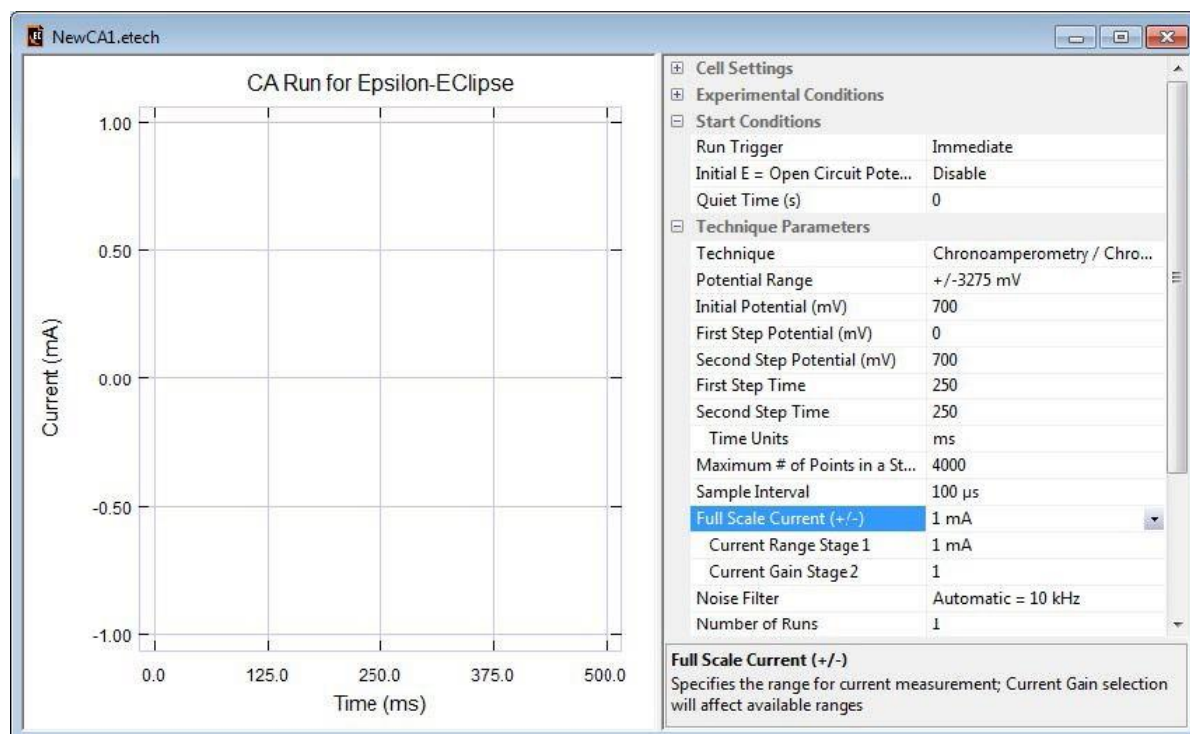
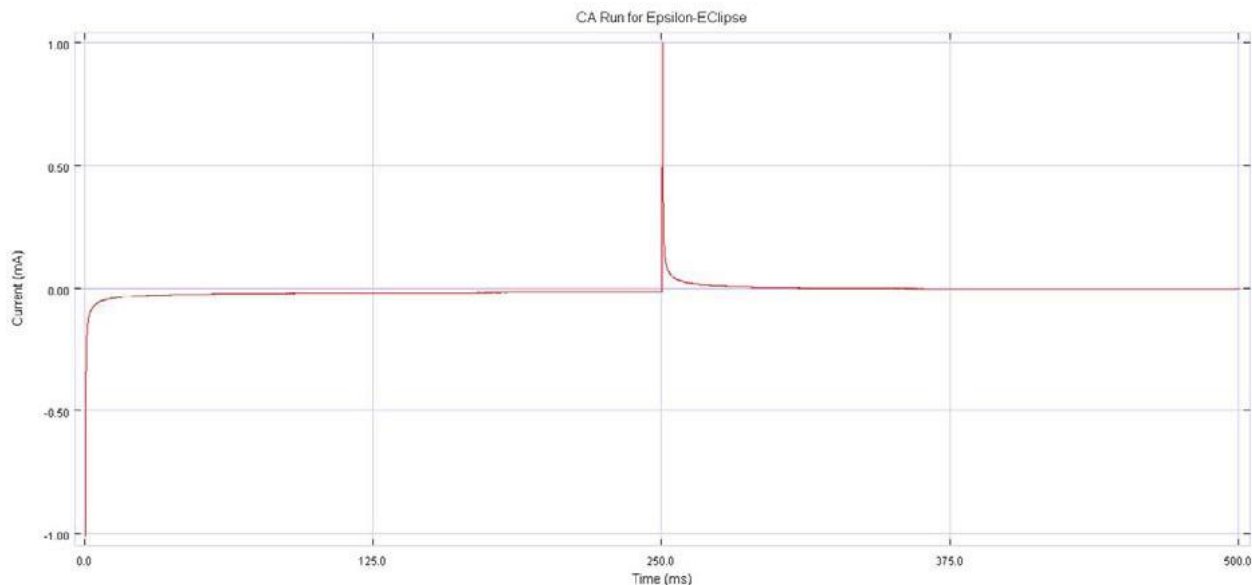

Figure 9 - Parameters for Chronoamperometry/Chronocoulometry
Figure 10 - Chronoamperometry/Chronocoulometry graph
11. Click **New**, and select **Chronoamperometry/Chronocoulometry** from the list of techniques. A third window will appear. Enter the parameters shown in **Figure 9**. Running the experiment generates the plot shown in **Figure 10**.